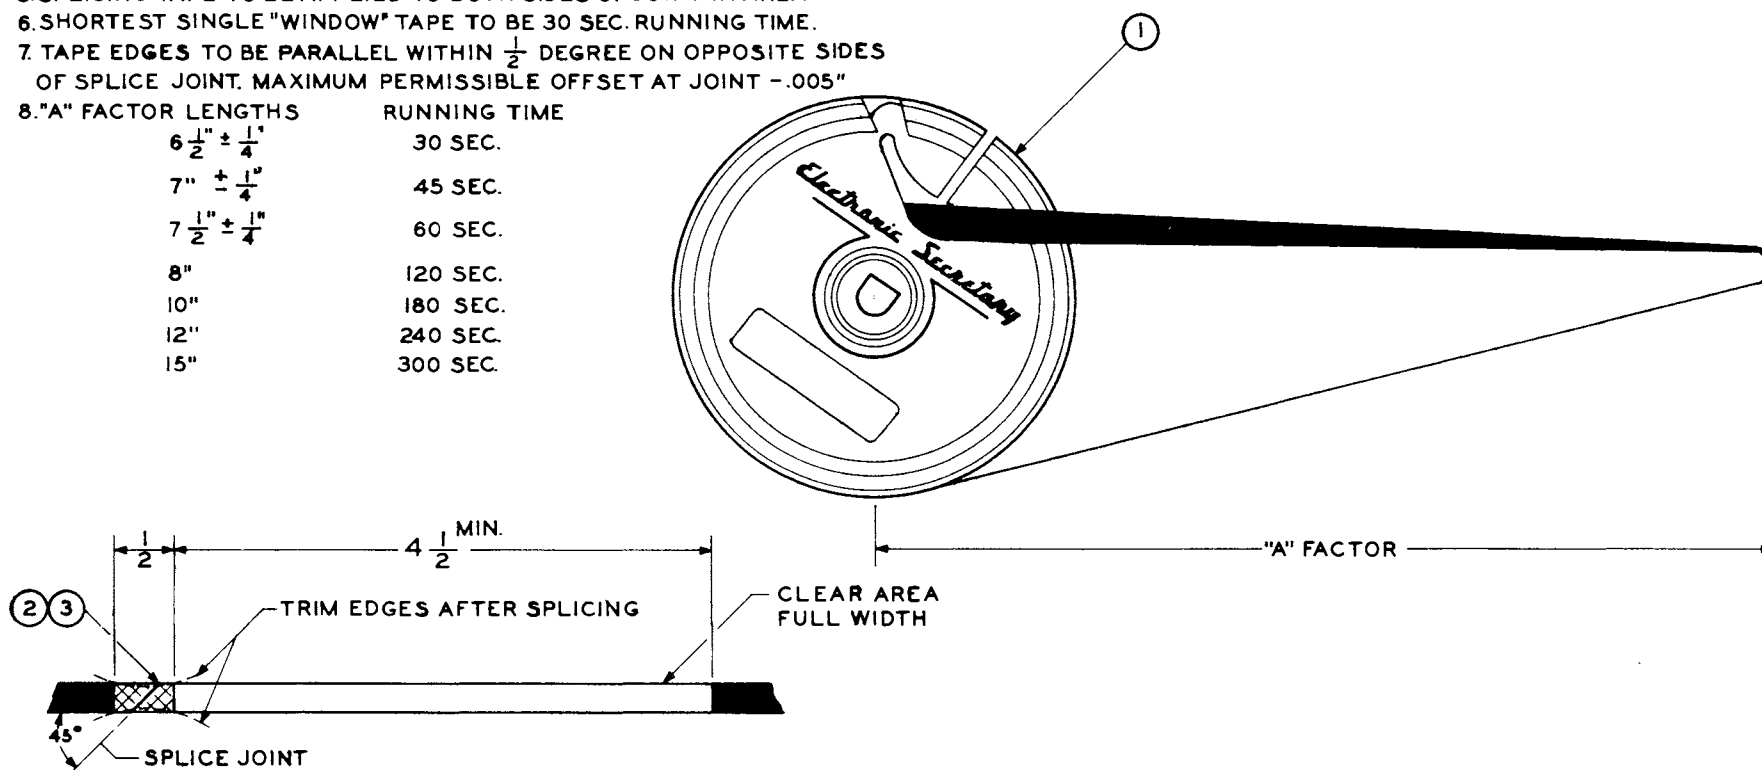

Figure 1. Tape Slack.
3.03 When in the mechanism, the tape should move freely around the pillars and heads. Assure that the tape does not bind in the cartridge and that there is sufficient tape slack consistent with running time (refer to figure 1).